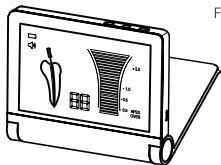

Fig.1
B) Insert the tester into the measuring wire socket (Figure 1). The LCD display should show a value within the range of "0.5-0.0" and the root canal indicator is in the yellow area, then it means normal.
1) Connect the measuring wire: securely insert the plug of the measuring wire into the Measuring wire socket on the unit. (Fig.1)